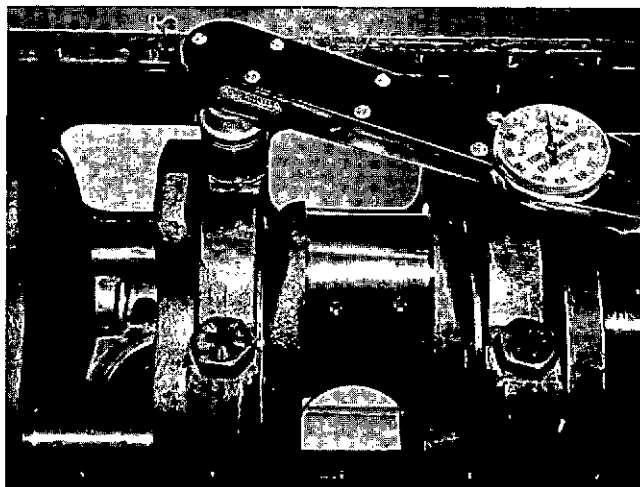

Fig. 14-1-5, V414108. Tighten main bearing cap screws
9. With a torque wrench, tighten each capscrew in alternate steps as noted in Steps 1 through 4 of Table 14-1-1. Fig. 14-1-5.